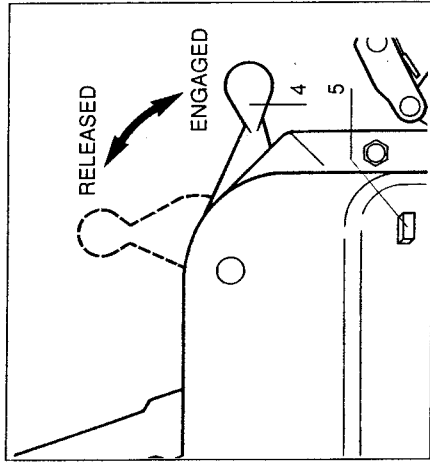

Fig. 7 - TU-8 and TU-16. Rope release lever.
4.1. TU-8 or TU-16 (Fig. 7)
There are two positions for the rope release lever (See Fig. 7, 8 and 9) : released or engaged.